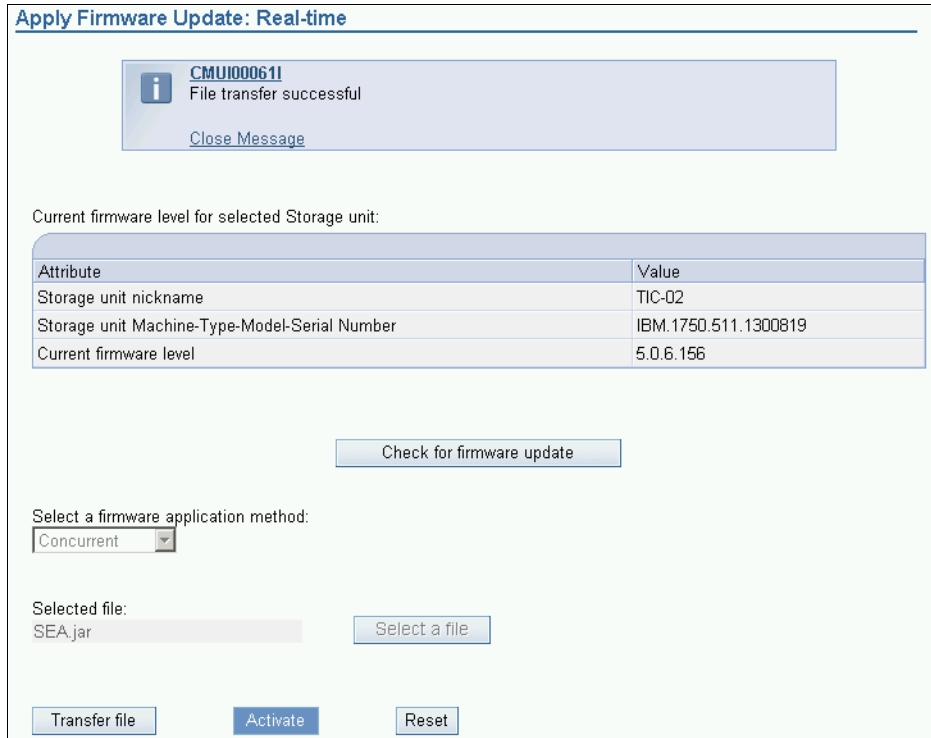

Figure 20-10 Initiating the activation of the new functional microcode
4. When the transfer of the microcode file to both DS6800 controller cards has completed successfully, a message is displayed at the top of the window and you can proceed with the fourth step and finally activate the new code by selecting **Activate**, as shown in Figure 20-10.
Therefore, before initiating the activation of the new microcode (Figure 20-10), be sure to take appropriate steps to take all DS6800 volumes offline on the attached host systems (for example, cleanly unmounting file systems, taking volumes offline, stopping applications, and so on, depending on the particular operating systems) in order to prevent data corruption.